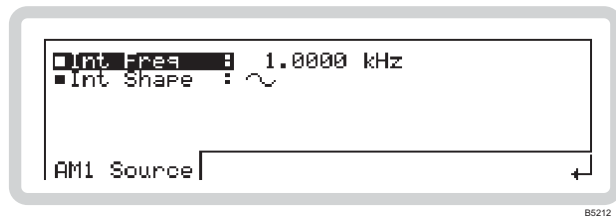

Fig. 3-42 Internal source, modulation path 1
- 2 Press **SIG GEN** to show the main screen and touch the **Int** function label to select the function. Press **Int** to view the internal source menu for path 1 (Fig. 3-42).